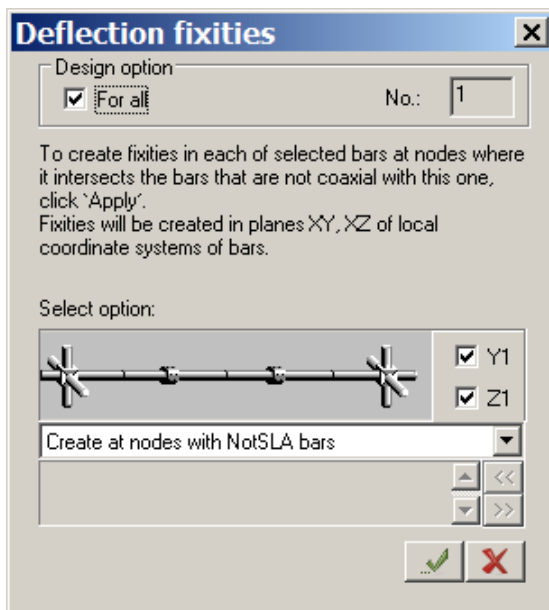

Figure 4.31 **Deflection fixities** dialog box
- ⇒ In the **Deflection fixities** dialog box (see Fig.4.31), select **For all** check box in the **Design options** area.